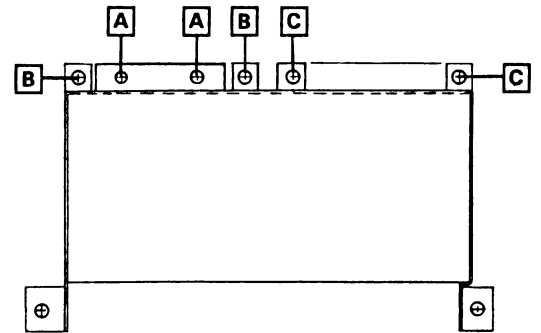

Fig. 3-7. Top RFI Shield Top View
3.2.6 Check that the cable clamp is still in position and install the 2 screws. See Fig. 3-7.
3.2.7 Install the remaining shield screws and the 4 drive bracket screws. See Fig. 3-7 and 3-8.